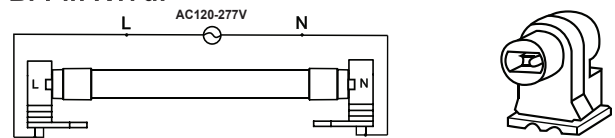

Figure 1a. - Double-Ended connection
STEP 7: These T8 LED lamps are designed for double ended wiring only (**Figure 1a**). When installing, confirm only the input end of the lamp is powered, and securely connected to the powered R17D lamp holders (120V-277V).
(Figure 1a. - Connexion à double extrémité)